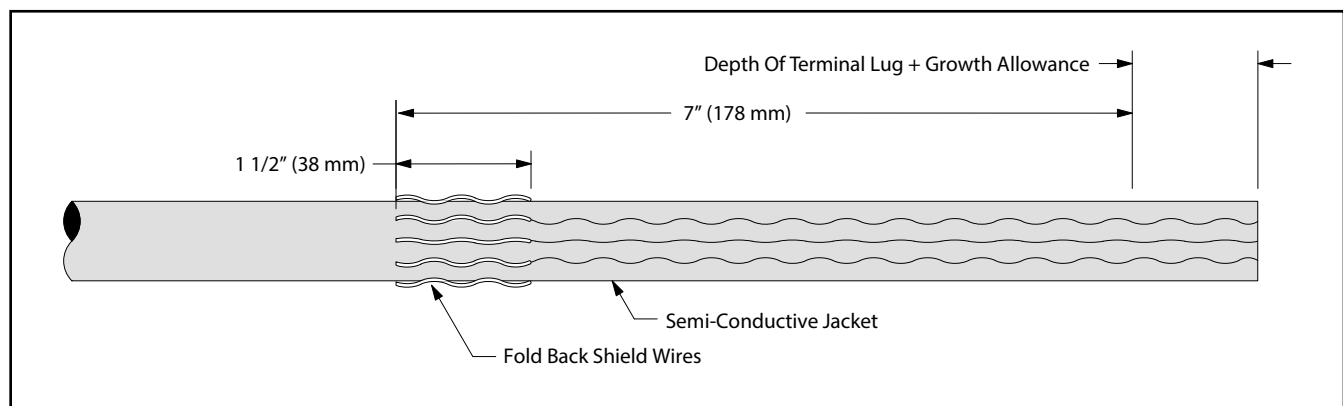

Figure 17
12.4 Remove constant force spring. Bend shield wires back upon cable jacket 1 1/2" (38 mm). Cut excess shield wire and discard (Figure 17).